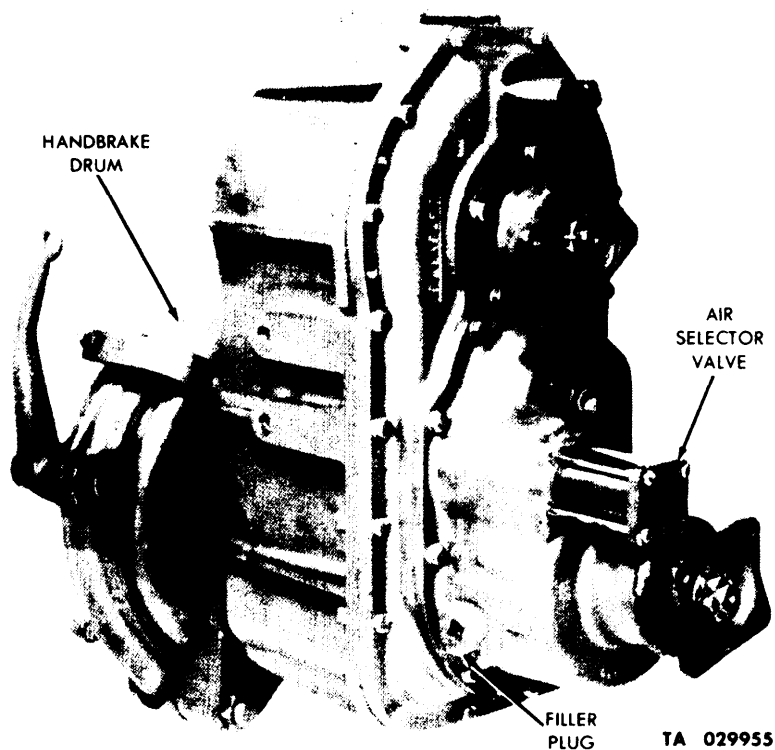

Figure 4-1. Positive Locking Transfer Model T-136-27 — Front View.
**4-1. General.** This chapter provides the repair instructions for positive locking transfer model T-136-27. (See fig. 4-1 and 4-2.)
*a. Description.* The positive locking transfer is a two-speed synchromesh unit with front and rear output shafts. The transfer unit is driven by the regular 5-speed transmission through a propeller shaft. Low or high gear selection through the transfer gives the truck a total of ten forward gears, and two reverse gears. With the operation of an air selector valve (fig. 4-1), the air locking assembly engages the front output shaft to the rear output shaft to drive the front axle. The transfer distributes the power to front and rear axles through the propeller shafts. The handbrake drum is mounted in the transfer rear output shaft companion flange. (See fig. 4-2.) The handbrake inner